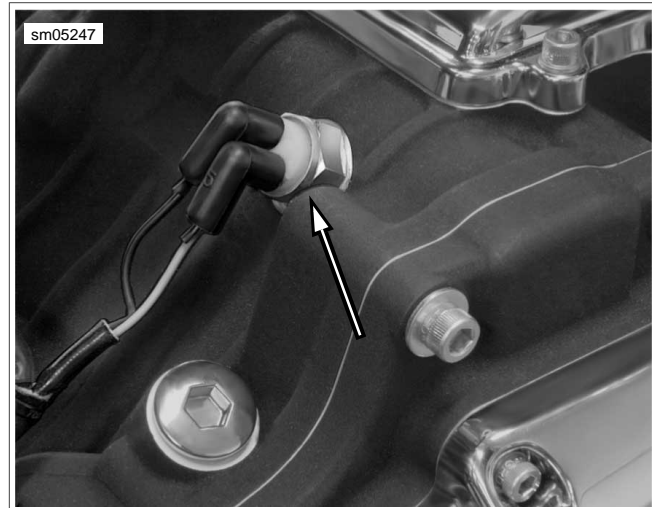

Figure 7-66. Neutral Switch
2. See Figure 7-66. Remove two elbow connectors from neutral switch posts.